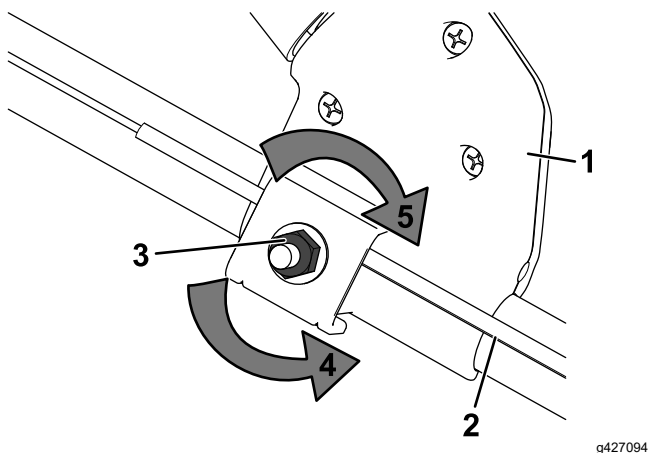

Figure 23
1. Turn the adjustment nut counterclockwise to loosen the cable adjustment (Figure 23).
2. Adjust the tension on the cable (Figure 23) by pulling it back or pushing it forward and holding that position.